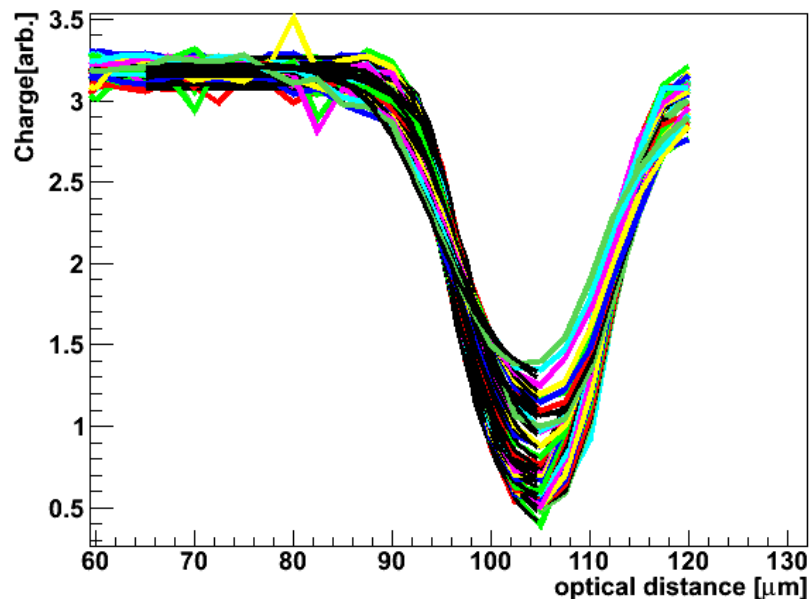

Figure 3: Dependence of collected charge on position along scanning axis (x or y) for different positions of optical system (z axis).
- Make the scan and run a macro: GetFocus.C (www.particulars.si/TCTAnalyse/examples/GetFocus.C.html). As a result you will usually get two plots shown in Fig. 3. and Fig. 4. Each curve/graph shown in Fig. 3 represents a dependence of charge (induced current integral) on x/y (scanning axis) at given z (optical axis). An error function is fit to each individual graph and from the fit the FWHM is calculated for a given z. The z value with smallest FWHM is declared as the “correct focus distance”. Please have a look at GetFocus.C for details about the analysis.